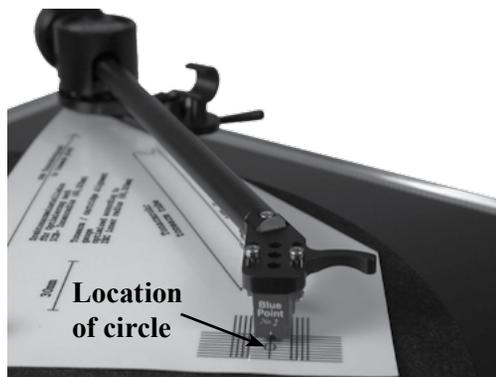
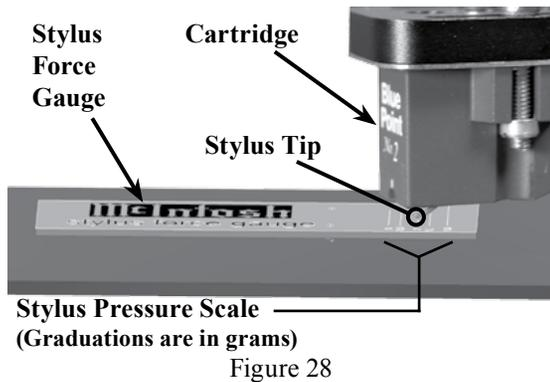
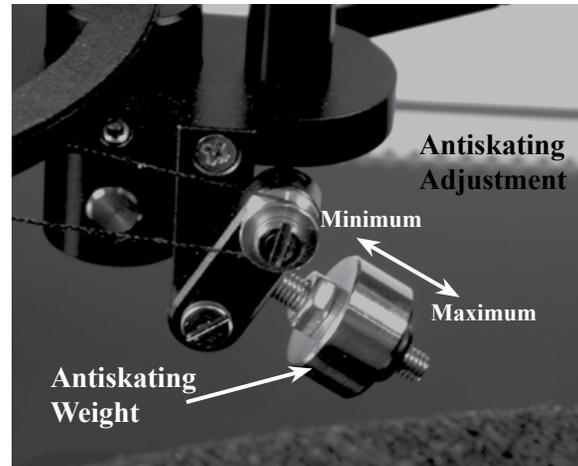

Figure 22
Figure 28
Figure 32
3. With the Anti-Skate Adjustment set to minimum (refer to figure 32), carefully place the Tone Arm onto the Alignment Gauge with the diamond tip of the stylus on the center of the small circle located between the parallel lines. Refer to figures 22 and 23.
figure 32). Adjust the position of the Tone Arm Counterweight to establish a tracking force pressure in the middle of the recommend range from the Cartridge manufacturer as a starting place. Refer to figures 28 thru 31.
The MT2 has adjustable Anti-Skating to equalize the pressure on both sides of the record groove wall by rotating the Anti-Skating Weight Up and Down the threaded shaft, refer to figure 32.